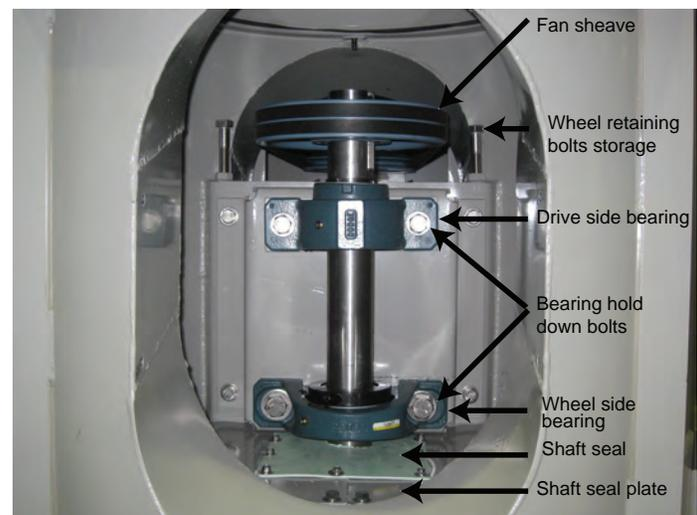
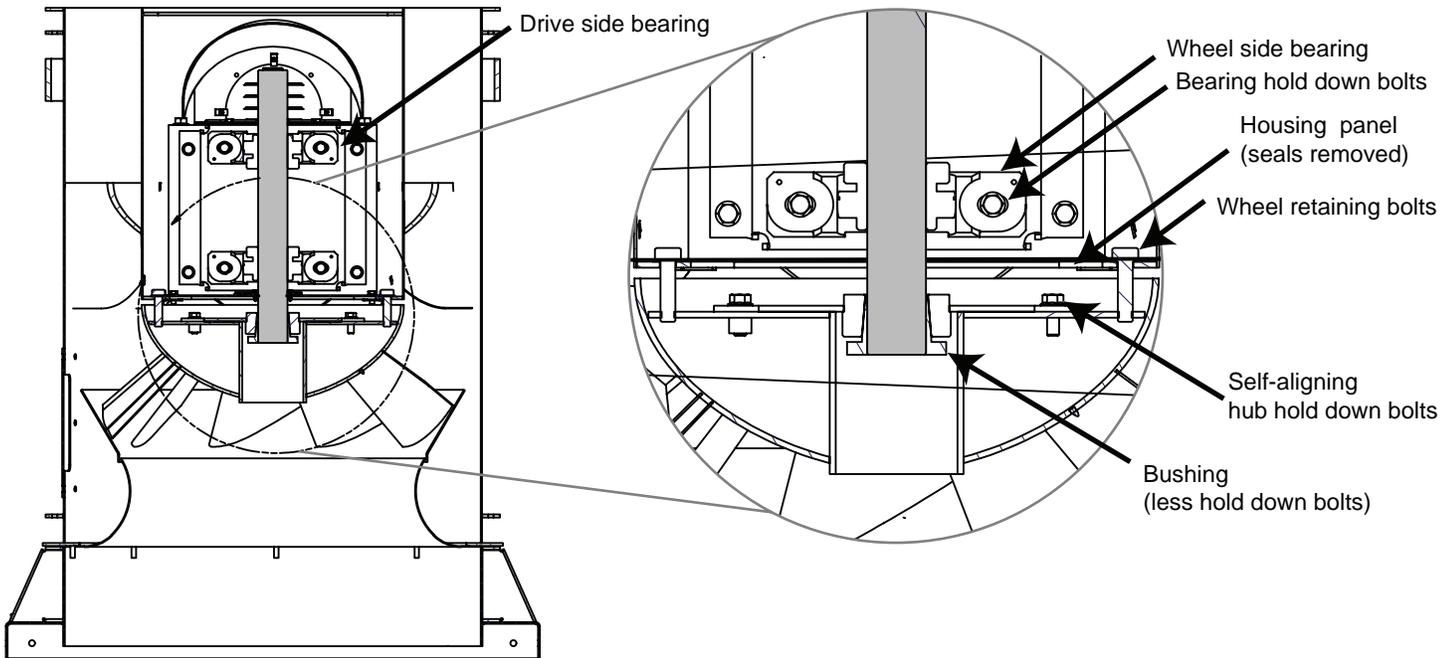

Figure 1: Close-up photo of the shaft / bearing compartment.
Figure 2: Detailed drawing of shaft / bearing compartment.
3. Locate the shaft seal, Figure 1. Remove the speed screws to loosen the seal.
4. Locate the shaft seal plates, Figure 1. Remove the bolts and remove the seal plate in sections.
5. Once the shaft seal plates are removed the (2) wheel retaining holes will be exposed. Remove the (2) wheel retaining bolts, Figure 1, that are located on top of the bearing support. Install them in the wheel retaining holes until they are flush with the housing panel slightly supporting the wheel as shown in Figure 2. **NOTICE! It is important that you do not over-tighten the retaining bolts as this may bind the bearings.**
6. Record the location of the fan sheave, Figure 1, from the end of the shaft, and remove the sheave.
8. Record the distance from the drive side bearing, Figure 1, to the end of the shaft, and note the exact location on the bearing plate. Remove the drive side bearing by loosening the bearing collar and removing the bearing hold-down bolts, Figure 1. This bearing may have a bearing shim that will need to be removed and set aside for reinstallation.
9. Record the distance from the wheel side bearing, Figure 1, to the end of the shaft, and note the exact location on the bearing plate. Remove the wheel side bearing by loosening the bearing collar and removing the bearing hold-down bolts, Figure 1. **NOTICE! Minimize shaft movement to keep from damaging the wheel and/or inlet.**
10. Install new bearings by sliding them down the shaft starting with the wheel side bearing, noting the exact locations of each and lightly tighten each bearing hold-down bolt. Tapping the inner race of each bearing with a soft driver may be required. Also be sure to reinstall the drive side bearing shim if one was set aside from above (step 8). **NOTICE! Do not fully tighten the bearing hold-down bolts, Figure 1, to the base.**
7. Remove the self-aligning hub hold-down bolts, Figure 2, to loosen the hub from wheel.
8. Remove the wheel side bearing hold-down bolts, Figure 1, to loosen the bearing from the fan bearing support.
9. Remove the drive side bearing hold-down bolts, Figure 1, to loosen the bearing from the fan bearing support. The drive side bearing may have a bearing shim that will need to be removed and set aside for reinstallation.
11. Record the location of the fan sheave, Figure 1, from the end of the shaft, and remove the sheave.
12. Record the distance from the drive side bearing, Figure 1, to the end of the shaft. Remove the drive side bearing by loosening the bearing collar.
13. Record the distance from the wheel side bearing, Figure 1, to the end of the shaft. Remove the wheel side bearing by loosening the bearing collar.
17. Install new bearings by sliding them down the shaft starting with the wheel side bearing, Figure 1, noting the exact locations of each. Tapping the inner race of each bearing with a soft driver may be required.
20. Reinstall the fan sheave, Figure 1, to the proper location.
21. Install the shaft and bearing assembly by hand tightening the self-aligning hub hold-down bolts, Figure 2, to the wheel
22. Lightly tighten each bearing hold-down bolt, Figure 1, be sure to reinstall the drive side bearing shim if one was set aside from above (step 9). **NOTICE! Do not fully tighten the bearing hold-down bolts, Figure 1, to the base.**
23. Once the drive component assembly is in place fully tighten the self-aligning hub hold-down bolts, Figure 2, and drive side bearing hold-down bolts, Figure 1, to the required torque.
24. Remove the wheel retaining bolts and return them to the top of the bearing support as shown in Figure 1 and rotate the shaft by hand again.
25. Fully tighten the wheel side bearing hold-down bolts, Figure 1, to the proper torque and rotate the shaft by hand again. Resistance should be the same as it was before the bearing hold-down bolts were fully tightened.
26. Reinstall the shaft seal plates, Figure 1, and fasten the shaft seal, Figure 1.
27. Reinstall the extended lube lines as required and align the fan sheave, Figure 1, with the motor sheave if necessary.
5. Support the old wheel inside the housing and remove the self-aligning hub hold-down bolts, Figure 2.
7. Install the new wheel with hub attached, less bushing by supporting the new wheel until held in place using the (2) wheel retaining bolts, Figure 1, that are located on top of the bearing support, install them in the wheel retaining holes and align the wheel in the proper location as shown in Figure 2.
10. Adjust the wheel using the (2) wheel retaining bolts, Figure 1, to achieve proper wheel/inlet overlap and tighten the bushing hold-down bolts to the proper torque. Refer to Wheel-to-inlet Clearance on page 3 in the QMX IOM manual and trim balance as necessary (0.785 in/sec max).
11. Reinstall the shaft seal plates, Figure 1, and shaft seal, Figure 1.